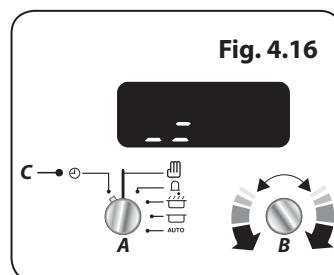

Fig. 4.16
To adjust the tone of the alarm, release the **Adjusting (B)** knob and then turn counter clockwise again (**Fig. 4.16**). The tone of the alarm will change. Repeat these steps until the desired alarm tone is set.